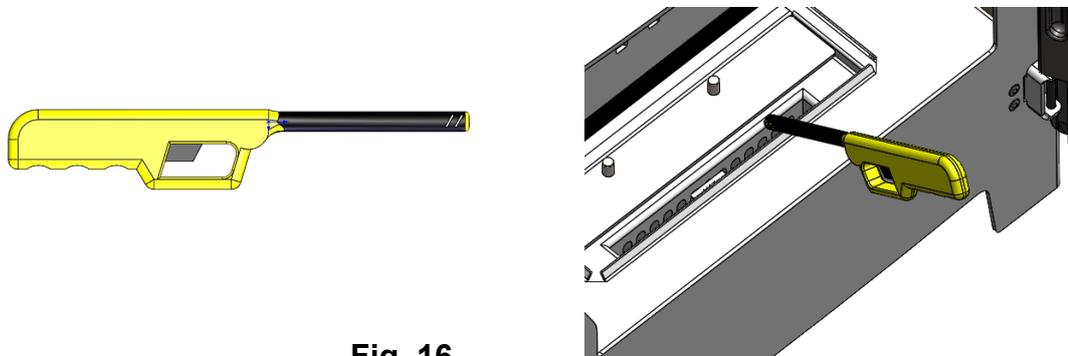

Fig. 16.
- Using a long match or we recommend a long reach gas lighter, ignite the burner. See Fig. 16.